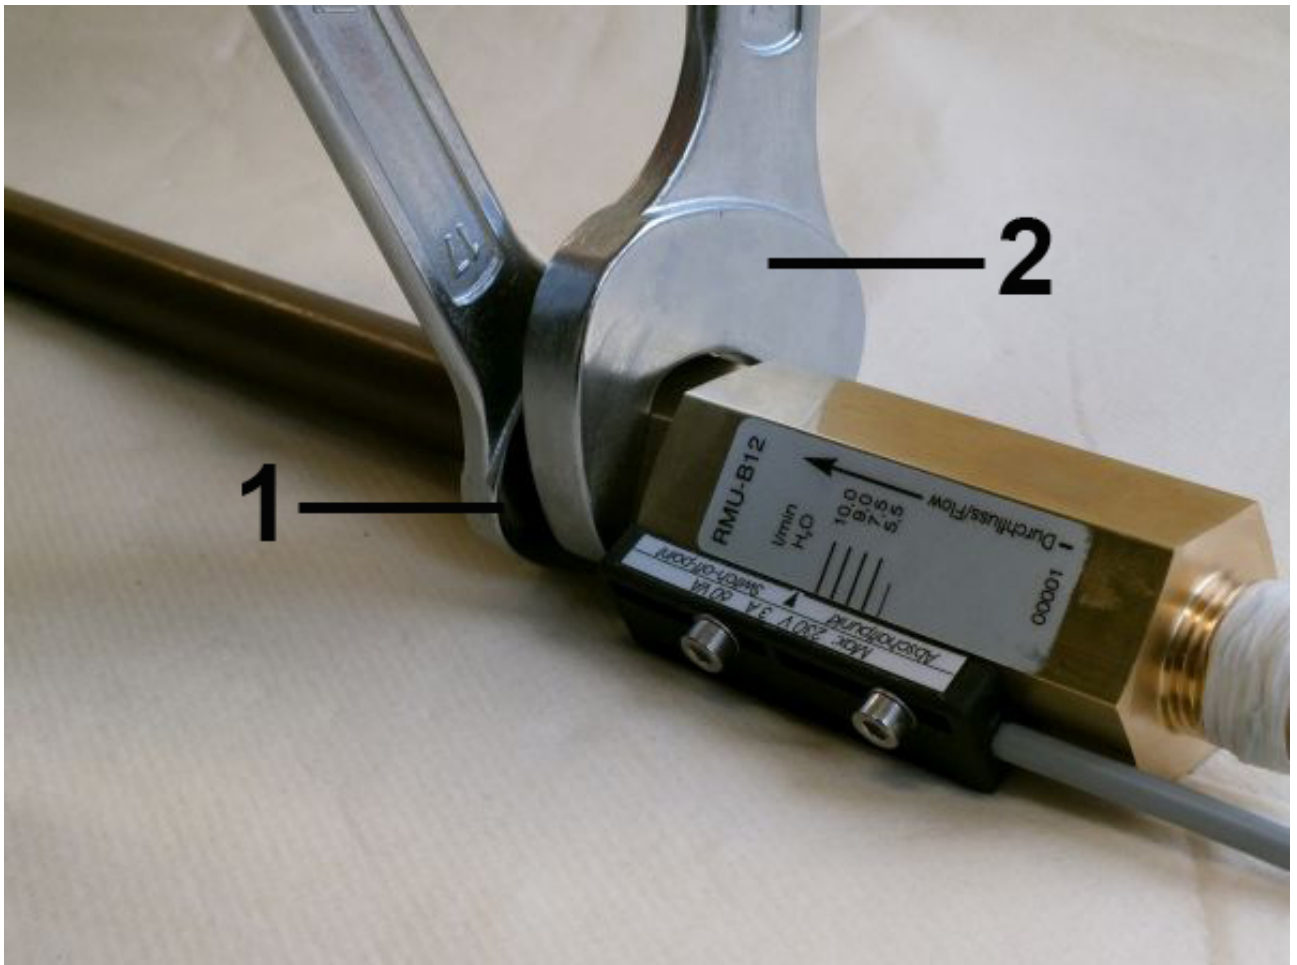

Fig. 16: Screw in the device (outlet)
5. ➔ Keep turning in the adapter union (Fig. 16/1) while holding the process connection of the device locked (Fig. 16/2) until the connection is tight.